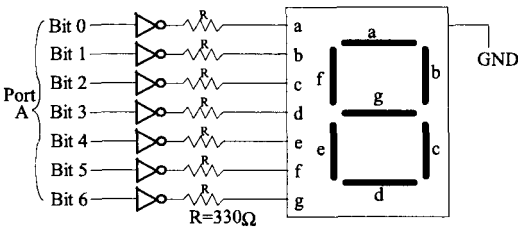

FIGURE P9.33
- 9.33 An 8086/2732/6116/8255 microcomputer is required to add two 3-bit numbers in AL and BL and output the sum (not to exceed 9) to a common cathode seven-segment display connected to port A as shown in Figure P9.33. Write an 8086 assembly language program to accomplish this by using a look-up table. Do not use XLAT instruction.